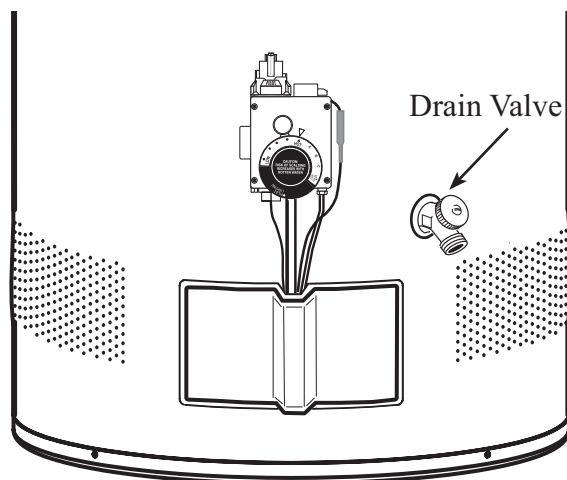

Figure 2
- 2. DRAINING THE WATER HEATER:** Shut off the inlet water supply to the water heater. Connect a garden hose to the drain valve and route to a drain or suitable draining area. Open a hot water faucet to allow air to flow into the water heater tank and open the drain valve. See Figure 2.